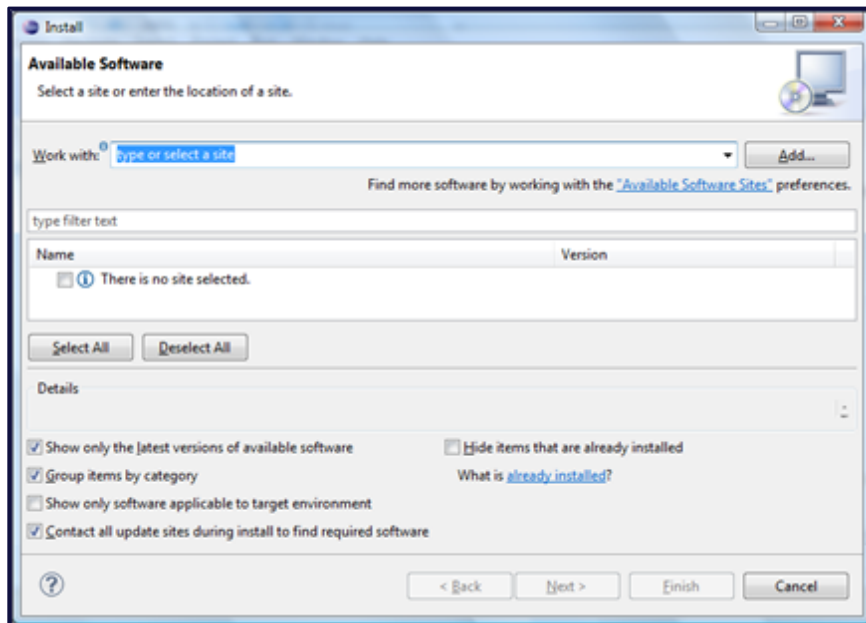

Figure 5: New Software installation window
1. From Eclipse, click **Help > Install New Software** (Figure 5).